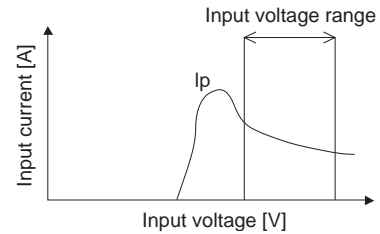

Fig.3.2 Input Current Characteristics
■ Choose a front end power supply that can supply enough current Ip (Fig. 3.2) for starting up the power module.